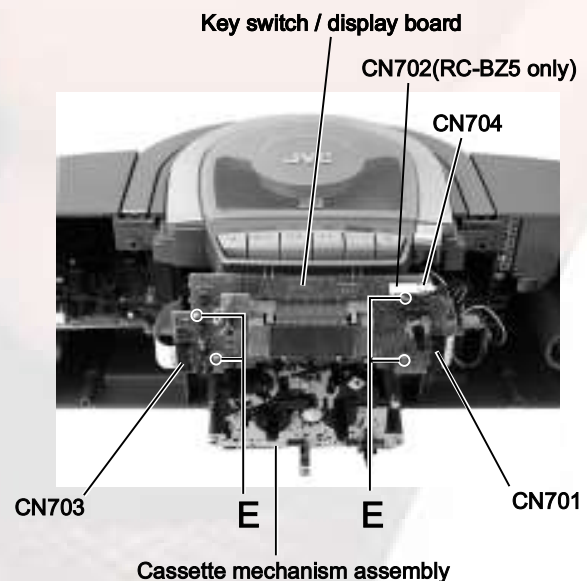

Fig.12
■Removing the key switch / display board (See Fig.12)